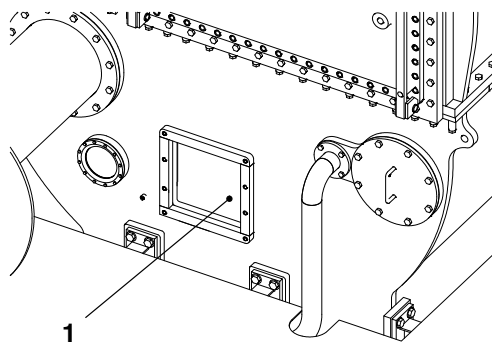

Fig. 17
- 14) Install the cover (1, Fig. 17) to the receiver.